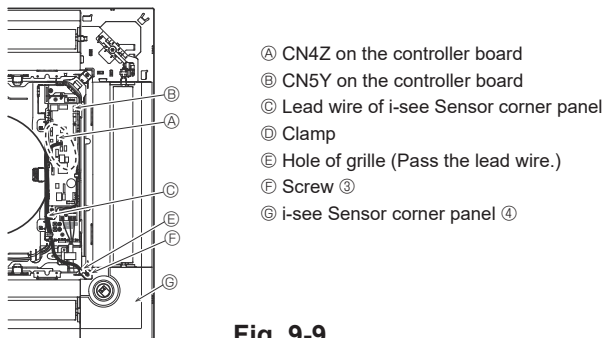

Fig. 9-9
9.4.5. Installation of i-see Sensor corner panel (Fig. 9-9)
- Route the lead wire connector (white, 4 poles and white, 5 poles) of the i-see Sensor corner panel (④) from the side of the electrical box on the main unit and connect to the connector CN4Z and CN5Y on the controller board.